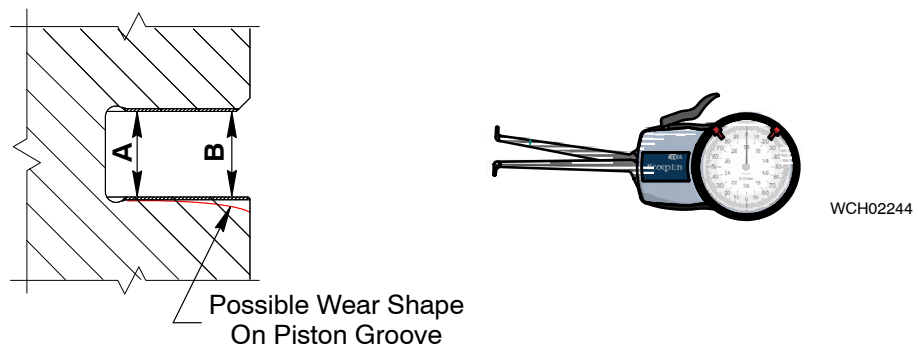

Fig. 5
- 1) Use the calliper gauge (1, Fig. 5) or inside micrometer set (94101) to measure the groove height at point A and point B. You must measure the groove height at a minimum of four locations around the circumference of the piston head.
- 2) Record the value from the calliper gauge (1) or inside micrometer set (94101).